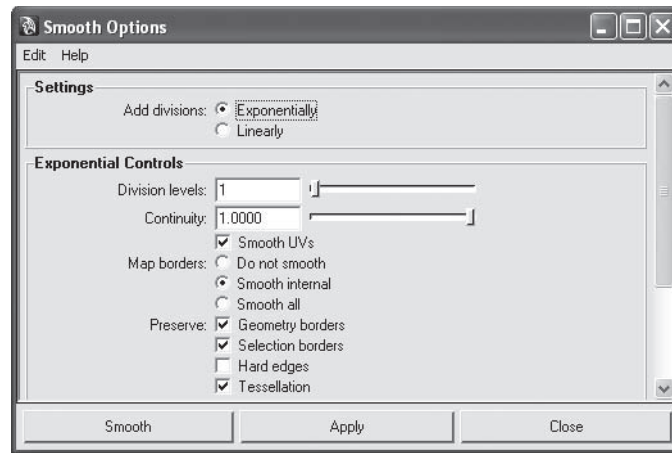

FIGURE 3.77 Polygon Smoothing Options window.
3. Make sure Add Divisions: Exponential is selected and Division Levels is 1, as shown in Figure 3.77.